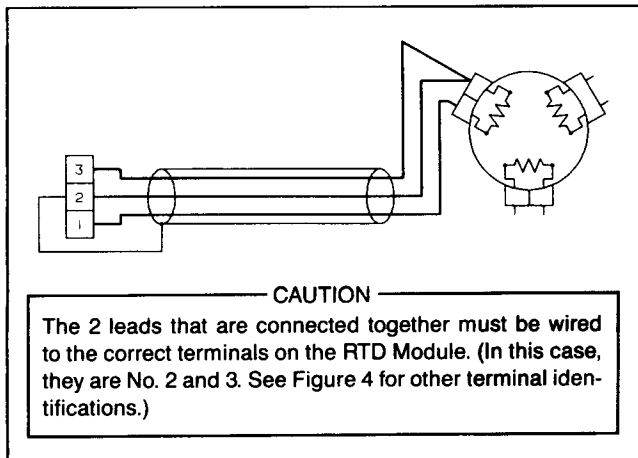

Fig. 4 Two-Lead RTD Wiring
3. Three conductors must be connected from the RTD to the RTD Module. (Two return wires must be connected together.) In cases where the motor provides only two leads from the RTD, connect two of the three conductors together at one of the leads. Make this connection as close to the RTD as possible (see Fig. 4). If only two conductors are connected between the RTD and the RTD Module, IQ-2000 and IQ-1000 controllers will not operate correctly.